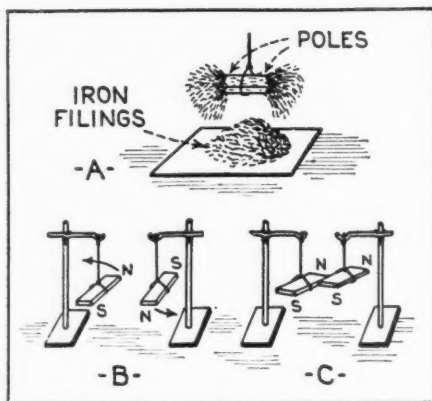

FIGURE 1
If a piece of hard steel be stroked continuously in the same direction with a piece of lodestone it will be found that the steel also becomes magnetized. If it is suspended by a piece of thread it will always point in a north and south direction. If it is dipped into a quantity of iron filings, small iron tacks or nails, and withdrawn, the filings or nails will adhere to it, particularly at two well-defined points as shown in (A) of Figure 1. These points are called the *poles* of the magnet. They are the places on the magnet where lines of magnetic force either enter or leave it. The pole which always points to the north magnetic pole of the earth when the magnet is suspended freely is
magnet is brought near the north pole of the other, as shown in B of Figure 1, they will be found to exert a force of repulsion between each other. If the south pole of one is brought near the south pole of the other, repulsion will take place again. If the south pole of one is brought near the north pole of the other, a force of attraction will draw them together as shown in C of Figure 1. The same action will take place if the north
When we dipped the magnet in iron filings (A of Figure 1) we saw that the attractive force of the magnet was greatest in the vicinity of the places we call the *poles*. As will be shown presently, magnetic effects are noticeable for a considerable distance in the space surrounding a magnet. This space around a magnet in which a magnetic substance would be subject to mechanical forces of attraction or repulsion if placed in it, is called the *magnetic field*. It is convenient to speak of the *direction* along which the magnetic force is acting at any point in the magnetic field, as a *line of force*. The student should not fall into the habit of looking upon magnetic lines of force as actual lines having physical existence, for this idea will be found misleading. There are no lines around a magnet. What we call lines of force are merely the imaginary lines along which the magnetic forces act. The total number of lines of magnetic force crossing a given space or field is called the *magnetic flux*.